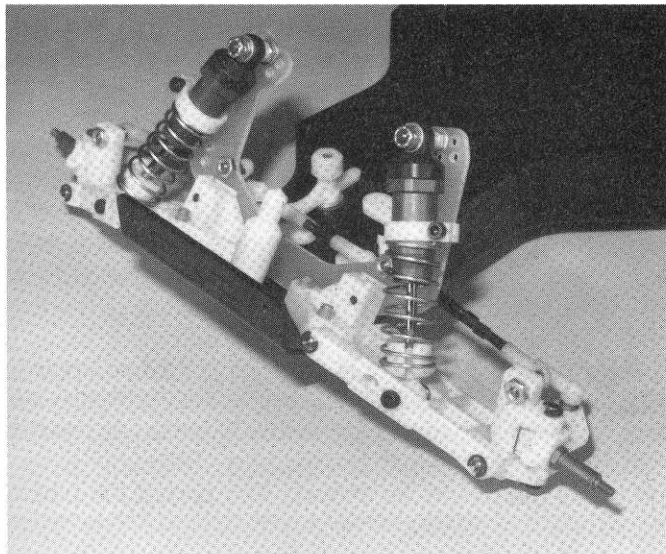

Fig. 110
□ **Fig. 110** Install the R.H. shock.